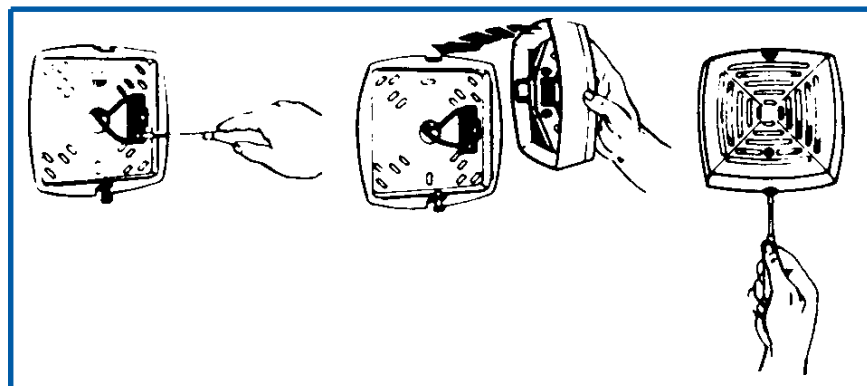

Figure 1. Mounting the Horn on the AdaptaPlate
4. Place the horn on the mounting plate so that the tab at the top seats in slot on horn. Press horn firmly against plate and tighten screw at bottom of unit. See Figure 1.